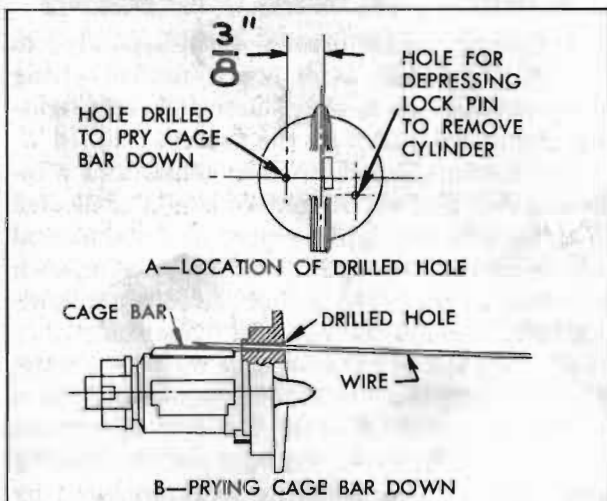

Figure 10-79—Removing Lock Cylinder having a Loose Cage Bar
To remove lock cylinder, insert key and turn ignition switch to "OFF" position. Insert a stiff wire (paper clip) in small hole in face of cylinder (fig. 10-79, view A) to depress the pin which locks the cylinder, turn cylinder clockwise and pull out. To install lock cylinder insert key, place cylinder in switch slightly clockwise from "OFF" position, press inward and turn cylinder counterclockwise.
1. Draw a centerline on cylinder at 90° to key slot, insert key, and make a prick punch mark on centerline $\frac{3}{8}$ " from side of key. See figure 10-79, view A. Carefully drill a .0465 hole (No. 56 drill) through cylinder flange at this point.
2. File the end of a stiff wire (paper clip) to a taper. Insert this end of wire in drilled hole to pry the cage bar assembly down so that lock cylinder can be turned. See figure 10-79, view B. After turning cylinder slightly, remove the wire to avoid wedging, then remove lock cylinder in the regular manner (subpar. b, above).